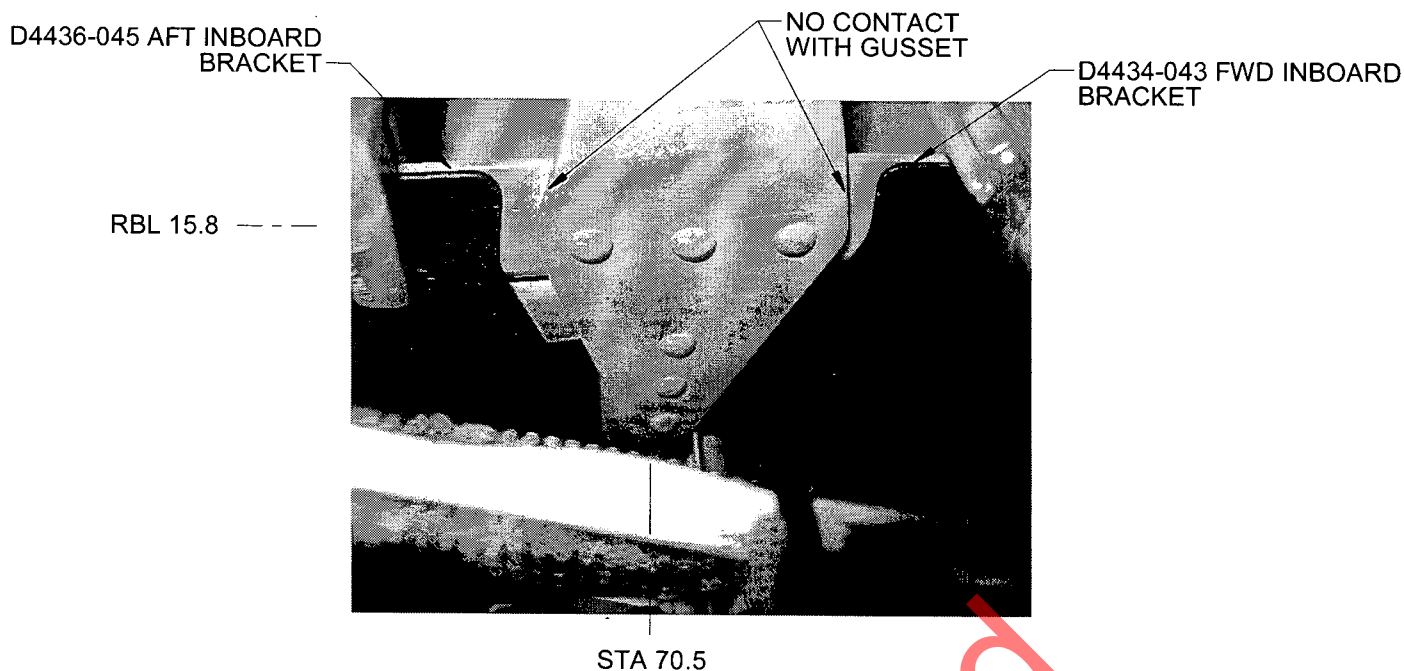

Figure 5. D4436-045 & D4434-043 Brackets Installation
- 4.2 Temporarily install D4434-043 Fwd Inboard Bracket and D4434-045 Fwd Outboard Bracket using clecos and cleco clamps. Confirm there is no contact between D4436-045 Aft Inboard Bracket and D4434-043 Fwd Inboard Bracket and main beam gusset as shown in Figure 5.